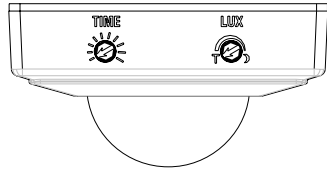

FIGURE 6
- Turn the Lux control and the Time control counter-clockwise to the edge-the TEST position. (FIGURE 6)